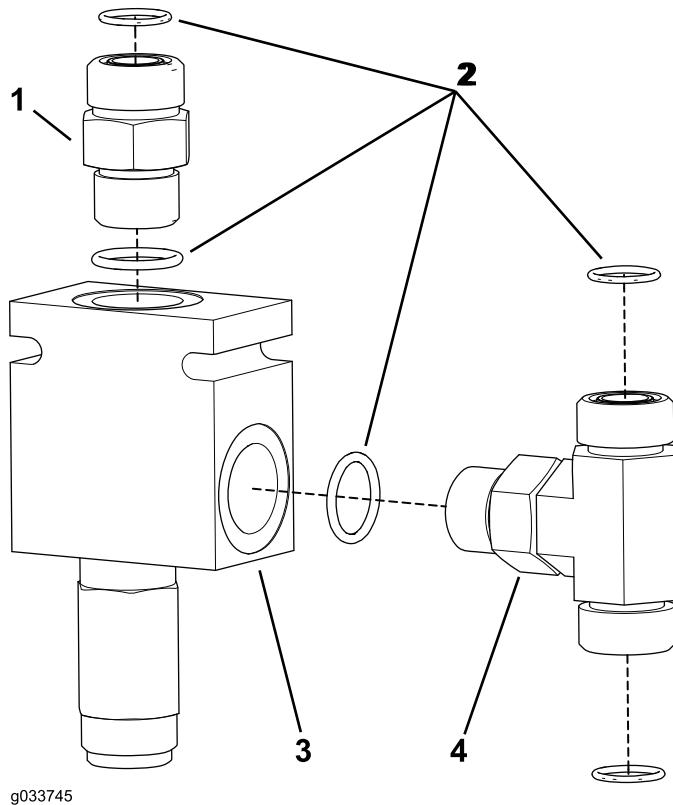

Figure 9
3. Install the adapter fitting (5/8 x 5/8 inch male) and tee-adapter fitting (5/8 male) onto the left manifold assembly as shown in Figure 9.